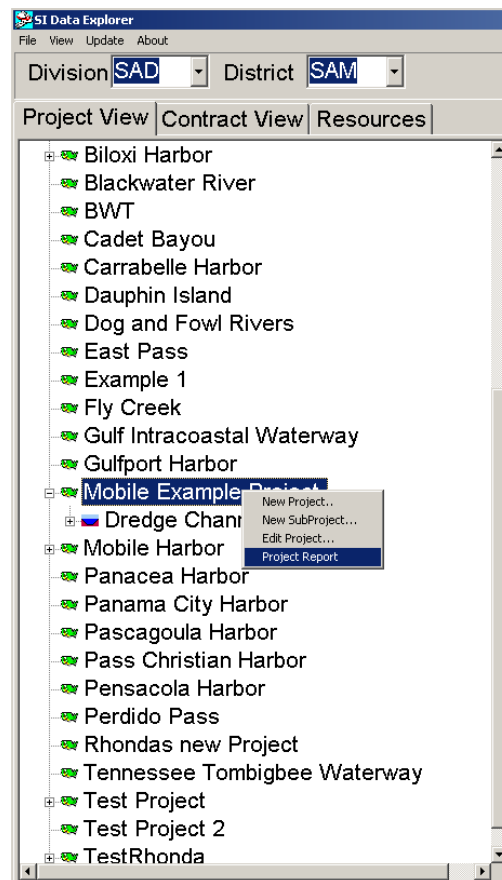
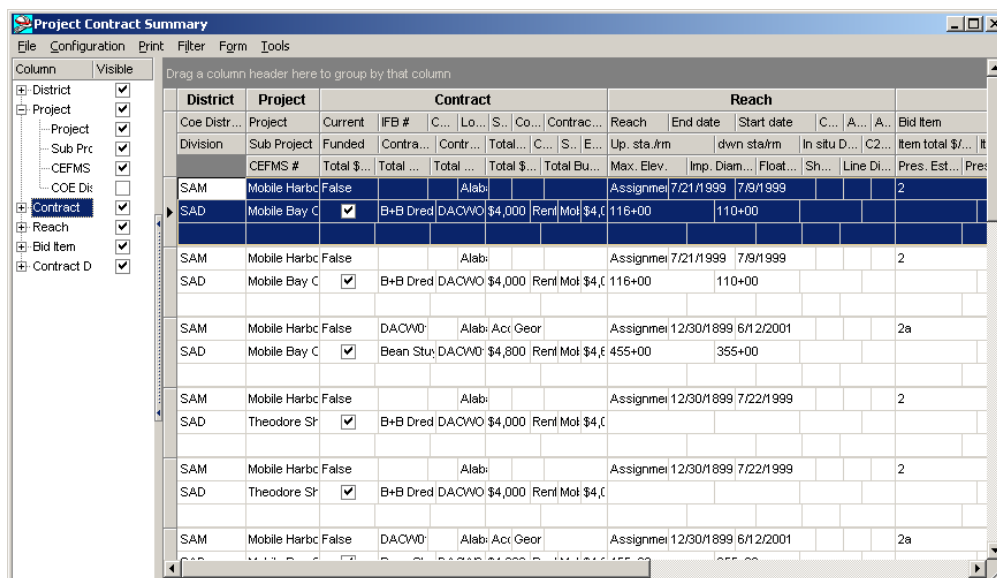

Figure 1.50 Project Report.
Figure 1.51 Project Report Window.
1. Right click on the project as shown in Figure 1.50 and select ***Project Report***. The Project Report Window will now appear as in Figure 1.51
The column tree on the left side of the project report window as shown in figure 1.51 is used to toggle individual column displays on or off for report clarity. To toggle a column on or off, click on the check mark located next to the column name. Check marks will appear next to each column that is displayed. Filtering, sorting, and grouping the project report works similar to the manual load reports. Refer to that section for more information on the subject.